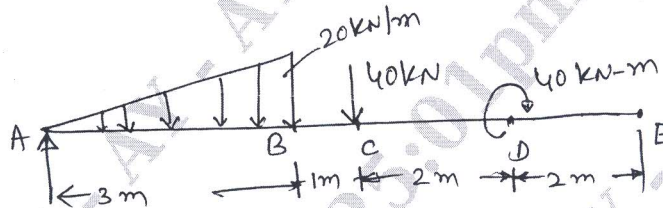

Fig.Q5(b)
b. Draw shear force and bending moment diagrams for beam shown in Fig.Q5(b).